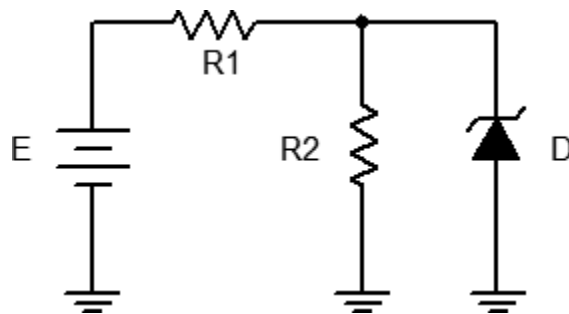

Figure 2
4. Consider the circuit of Figure 2 using $R_1 = 2.2\text{ k}\Omega$ and $R_2 = 4.7\text{ k}\Omega$. In general, to analyze circuits like this, first assume that the Zener is out of the circuit and then compute the voltage across R_2 using the voltage divider rule. If the resulting voltage is less than the Zener potential then the Zener is inactive (high resistance) and does not affect the circuit. If, on the other hand, the resulting voltage is greater than the Zener potential then the Zener is active and will limit the voltage across R_2 to V_Z . Via KVL, the remainder of the voltage drops across R_1 and from this the supply current may be determined. This current will then split between R_2 and the Zener. The R_2 current is found using Ohm's law. The Zener current is then found via KCL. Note that for higher and higher values of E , the voltage across (and therefore the current through) R_2 does not change. Instead, all of the "excess" current from the source passes through the Zener.
5. Build the circuit of Figure 2 using $R_1 = 2.2\text{ k}\Omega$ and $R_2 = 4.7\text{ k}\Omega$. Set E to 2 volts. Compute the theoretical diode voltage and current, and record them in the first row of Table 2. Then measure the diode current and voltage and record in Table 2. Finally, compute and record the deviations.